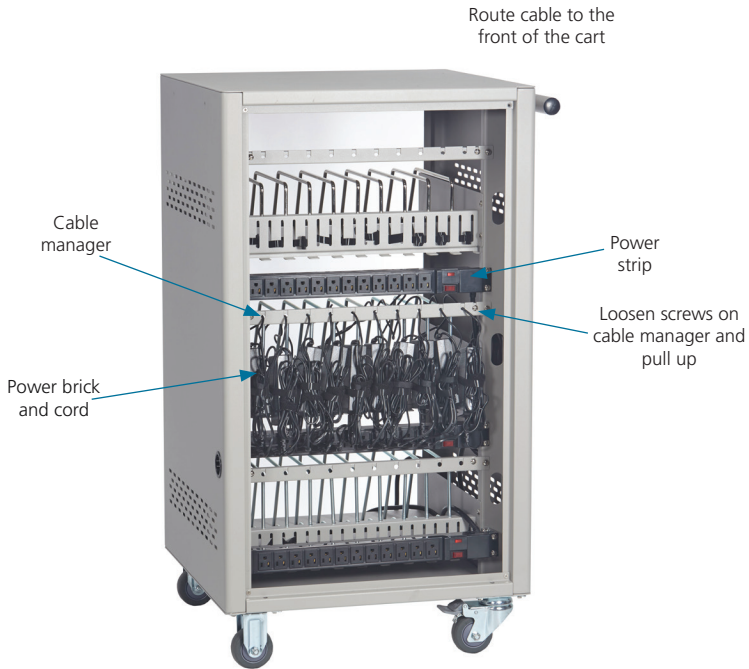

Figure 3-2. Fastening the power brick and routing the cable.
1. Attach the wrapped cord and power brick to the back of the shelf using the hook and loop strap. Keep some extra cable unwrapped to plug into the power strip. (See Figure 3-2.)